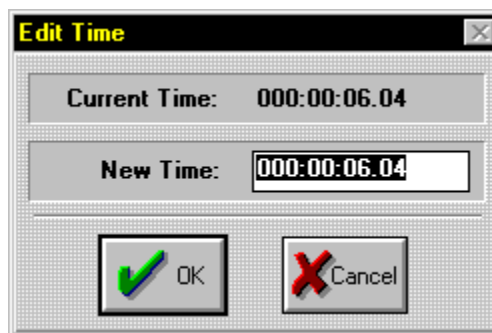

Figure 8.17. Edit Time Dialogue Box
1. Double click the **Cue Time** field in the cue to edit. This brings up the **Edit Time** dialogue box. Refer to Figure 8.17.